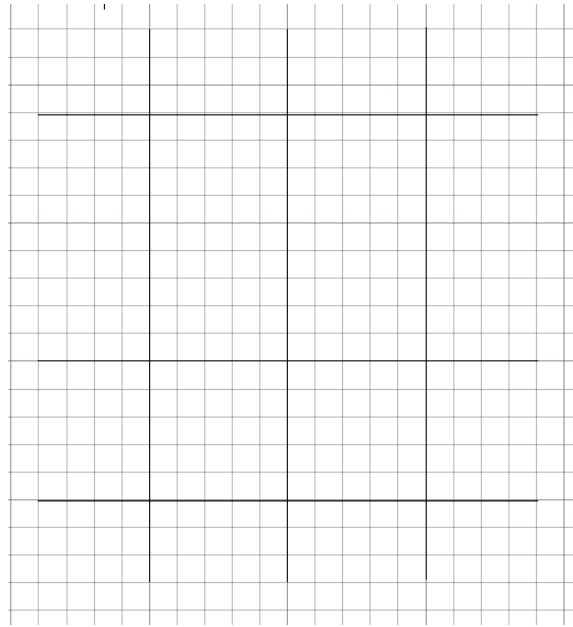

Figure 4.1 – Construction lines in the drawing
4.2.2 To begin with, let's draw auxiliary lines using the "Line" command on the "Draw" panel. We will build auxiliary and horizontal lines of any length at any point in the graphics space. For the lines to be strictly vertical or horizontal, turn on the "Ortho" mode in the status bar (figure 4.1).